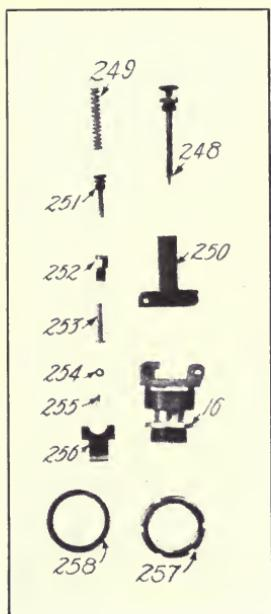

Fig. 62.
**54a. Cartridge starter, old type. (See Fig. 62.)**